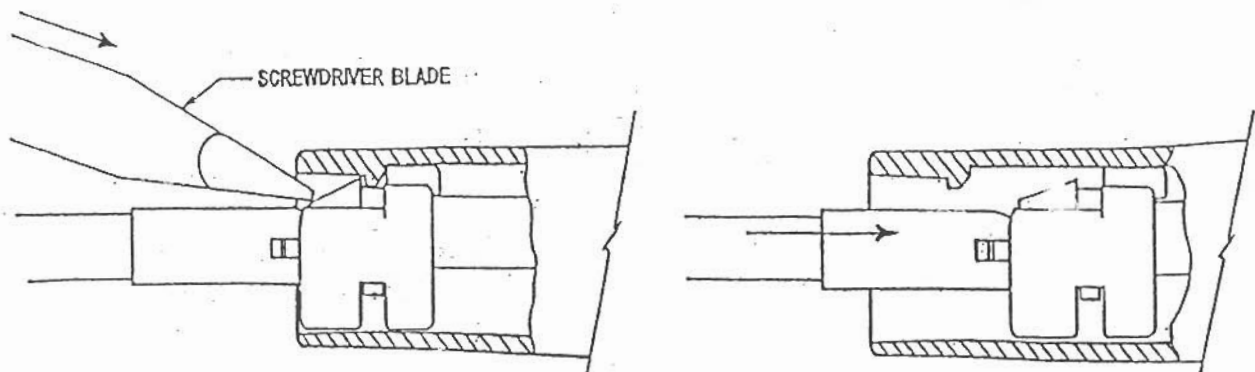

FIGURE 1
3. Insert screwdriver into rear of handle to depress cord strain relief (see Figure 1).